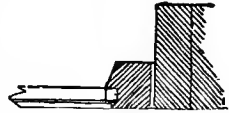

FIG. 56.
**The Ends.**—In constructing the ends of a house, the usual way is to fix a proper "plate" (see Fig. 35, p. 52) level with either the lower (or wall) plate, or sometimes with the upper (or eaves) plate, if there is one, and then to fill in the rest of the space with light vertical bars, cut to the angle of the end rafters at the top, and tacked in top and bottom. If there is a door, however, what is called a transom is put in (see Fig. 31, p. 50) at the same height as the lintel would come; or if this is high enough, level with the upper plates of the house. But as the transom, which is really a lintel carried right through to the outside timbers at each end, usually comes above even the upper plates, the ends have to be cut to the proper angle and secured to the end rafters by means of nails, or, if possible, a shoulder or "return" should be left and nailed on inside as well. In lofty houses it is usual to put in a transom, or even two, in the ends, whether there are any doors or not (see Figs. 56 and 57).